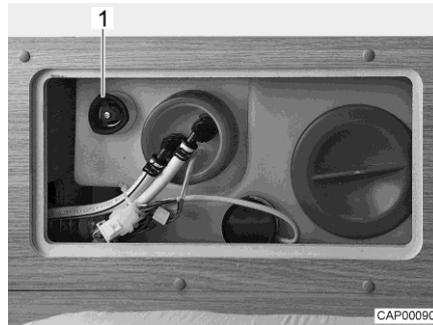

Fig. 97 Water tank with rotary handle
- Turn the rotary handle (Fig. 97,1) on the water tank in an anticlockwise direction as far as possible beyond the resistance to fully open the drainage opening.